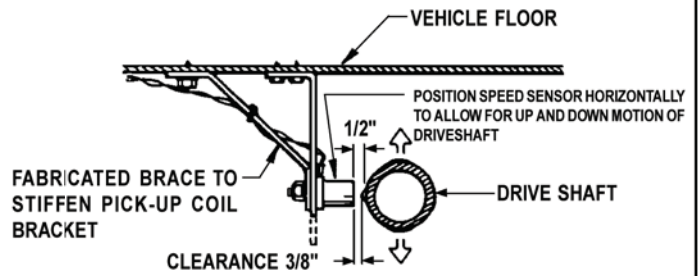

Figure 3
Step 8: Spin the drive shaft by hand and check to ensure proper clearance. Remember that the drive shaft position will change with the suspension. See Figures 3 or 8.